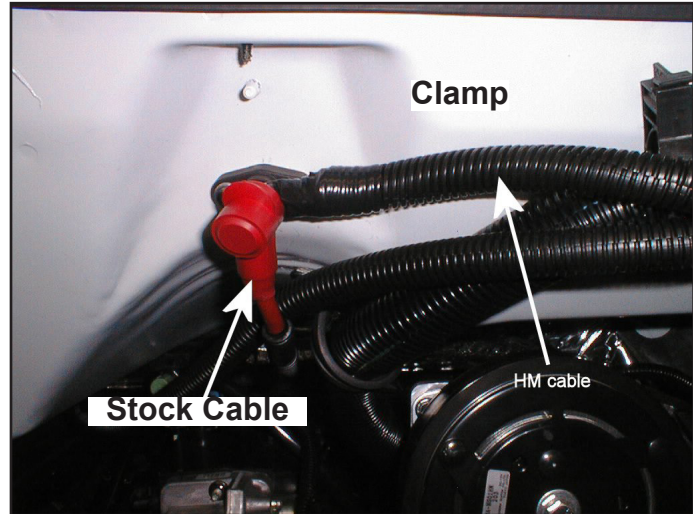

Figure 42. Mount Terminal Block to Firewall
1. Mount the terminal block to the firewall. This eliminates the need to cut off the original ring connector or splice the wire (see Figure 42 for mounting).